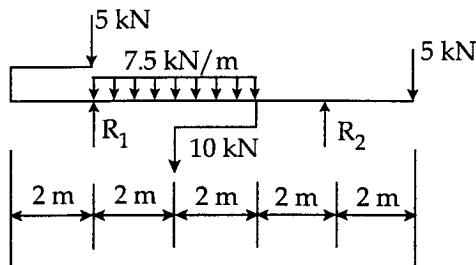

Fig. 4
5. For the beam shown in Fig. 4, draw SFD and BMD. 14